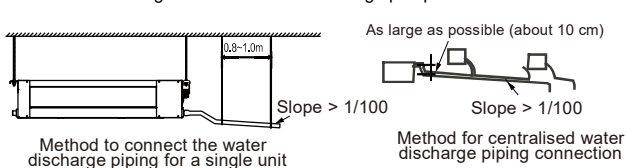

Figure 5.4
7. Install the water discharge pipes as shown in Figure 5.3 or Figure 5.4. The water discharge piping outlet should not be higher than the water discharge height, ensuring a downward slope of more than 1/100.